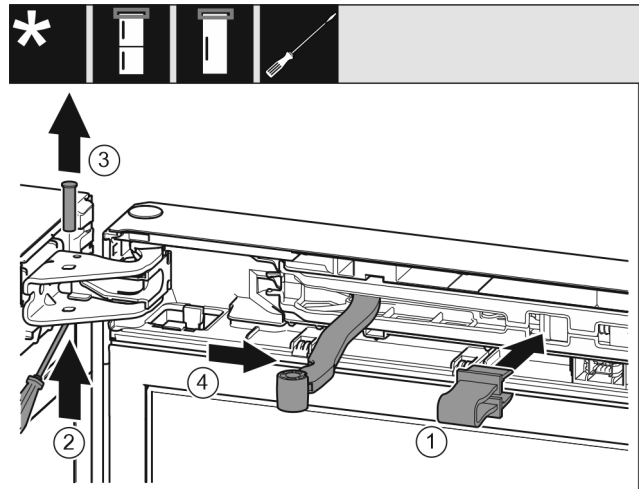

Fig. 8
- ▶ Snap the locking device Fig. 8 (1) into the opening.
- ▶ Pull out the pin Fig. 8 (2).
- ▶ Pull out the pin Fig. 8 (3) upward.
- ▶ Turn the joint Fig. 8 (4) towards the door.